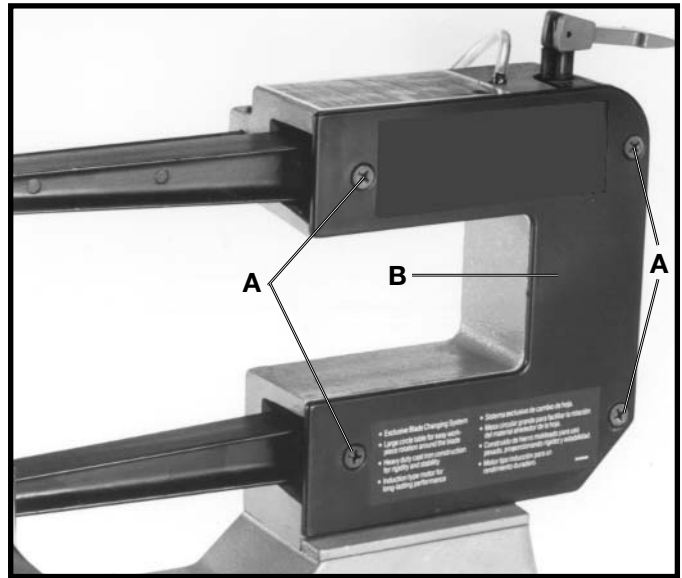

Fig. 26
2. Remove the four screws (A) Fig. 26, and side panel (B).